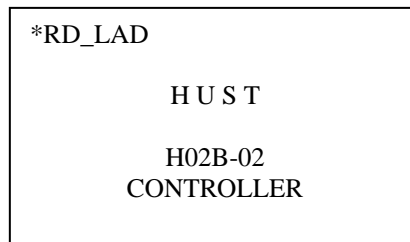

Fig 9-7 Ladder Transfer from PC to CNC
- If CNC is in execution mode (S080=1), wait until CNC finish execution (S080=0). Put CNC in TAPE mode RD_LAD (see Fig 9-7) and press CYCST key to start transferring.